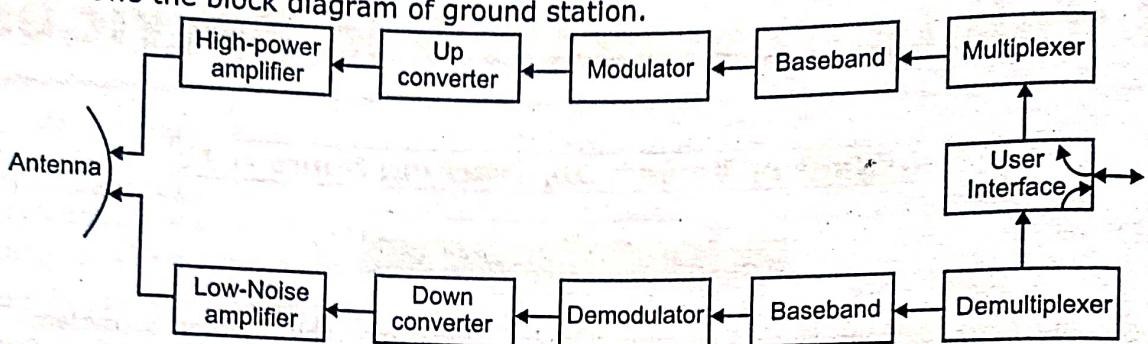

Fig. 5.1: Satellite Earth Station Block Diagram
- Fig. 5.1 shows the block diagram of ground station.